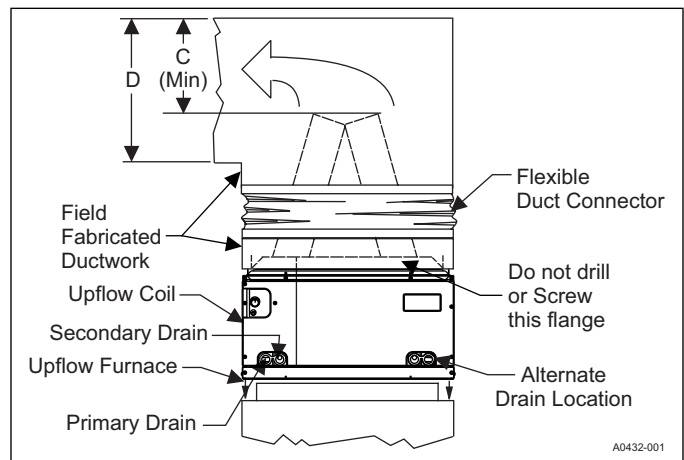

FIGURE 6: PC Series Upflow Coil Installation
1. Position the coil casing over the furnace opening as shown in Figure 6.
Do not drill any holes or drive any screws into the front or back duct flange on the coil in order to prevent damaging coil tubing. See Figure 6.
Dimension "C" should be at least 2/3 of dimension "D". See Figure 6.